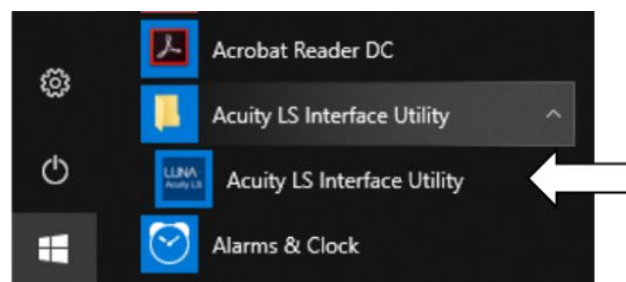

Figure 5. Starting the Acuity LS Interface program.
2. In the Windows start menu, locate the Acuity LS Interface folder and select the program (Figure 5).